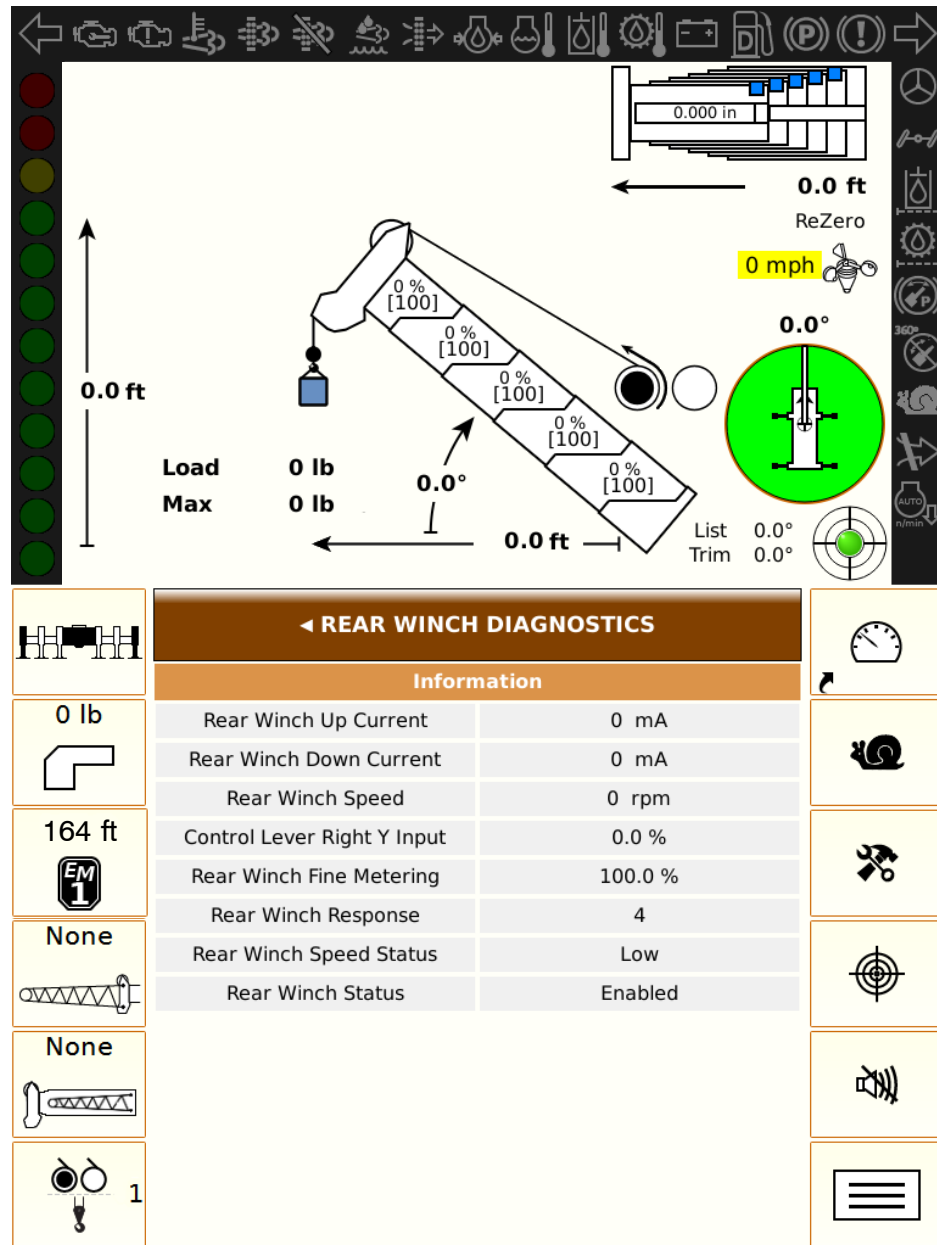

Figure 1-135
4. The Rear Winch Diagnostics Screen will appear. Refer to Figure 1-135.